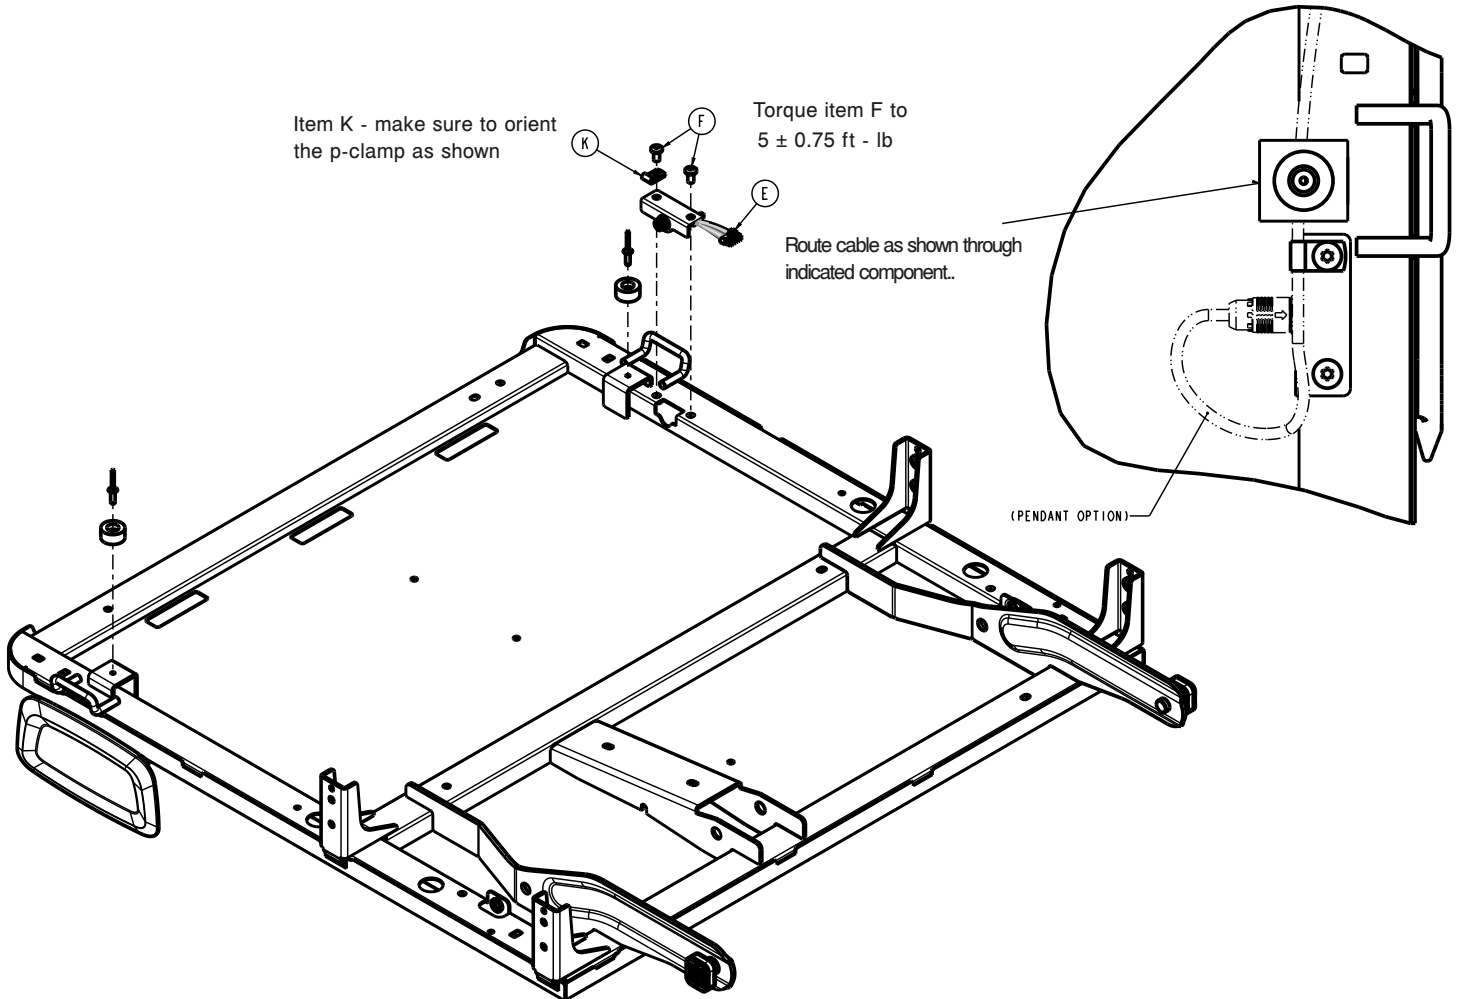

Figure 59 – Attaching the pendant
7. Using a T30 Torx driver, remove the two screws (F) that secure the pendant connector (E) to the Fowler (Figure 59).
8. Route the pendant cable through the Fowler weldment (Figure 59).
9. Using a T30 Torx driver, install the two screws (F) that secure the pendant connector (E) to the Fowler (Figure 59).
Note - When you install the head end screw, install the supplied p-clamp (K) over the pendant cable. Leave a service loop, and then tighten the screw (Figure 59).